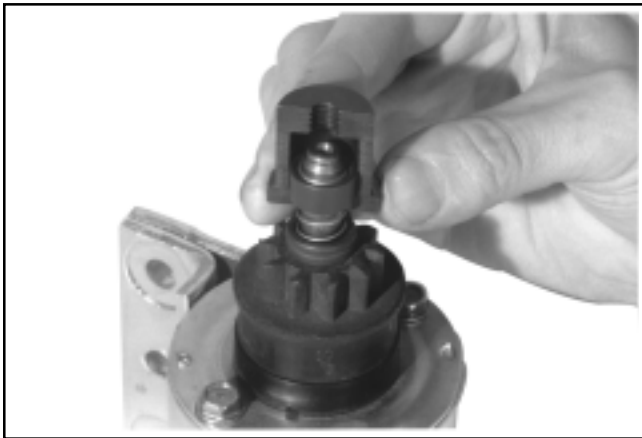

Figure 8-20. Assembling Larger Inner Half Around Spring Retainer.
5. Assemble the inner halves, with the larger cavity, around the spring retainer (see Figure 8-20). Slide the collar over them and thread the center screw in until resistance is felt.